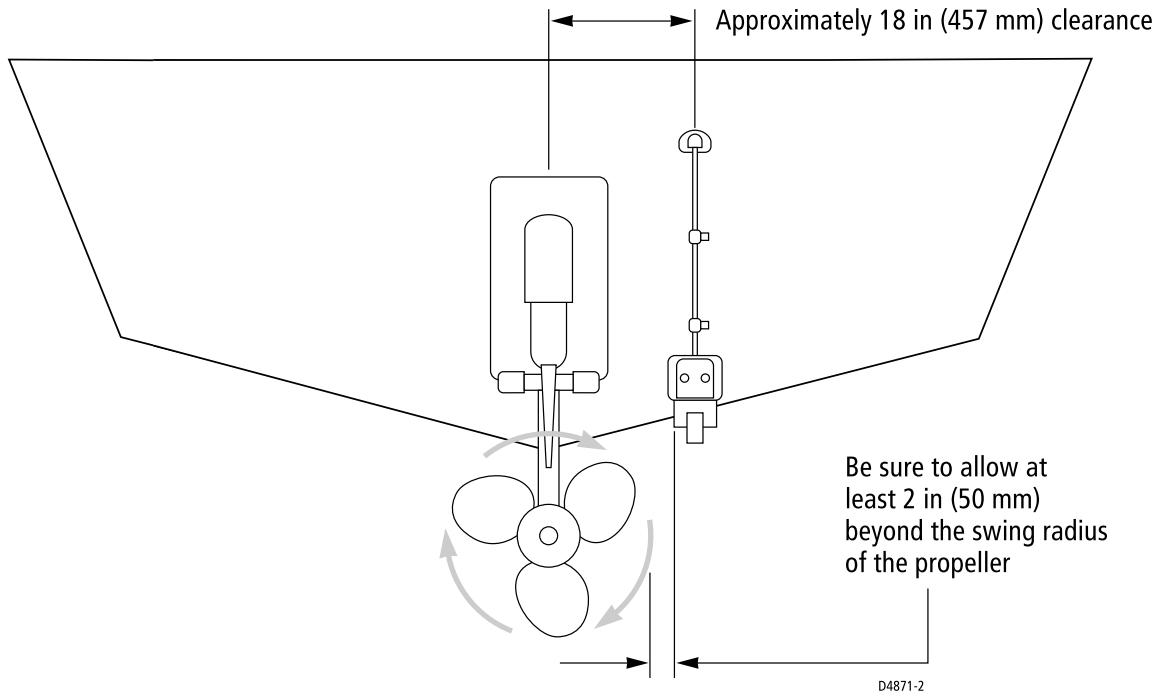

Figure 2-3: Transom Mount Transducer Location
- Single drive boat – Refer to Figure 2-3 . If your boat has one propeller (outboard or inboard), mount the transducer about 18" (455 mm) to the side of the boat's centerline. To reduce any interference caused by air bubbles, choose the side on the downstroke of the propeller (usually the starboard side).